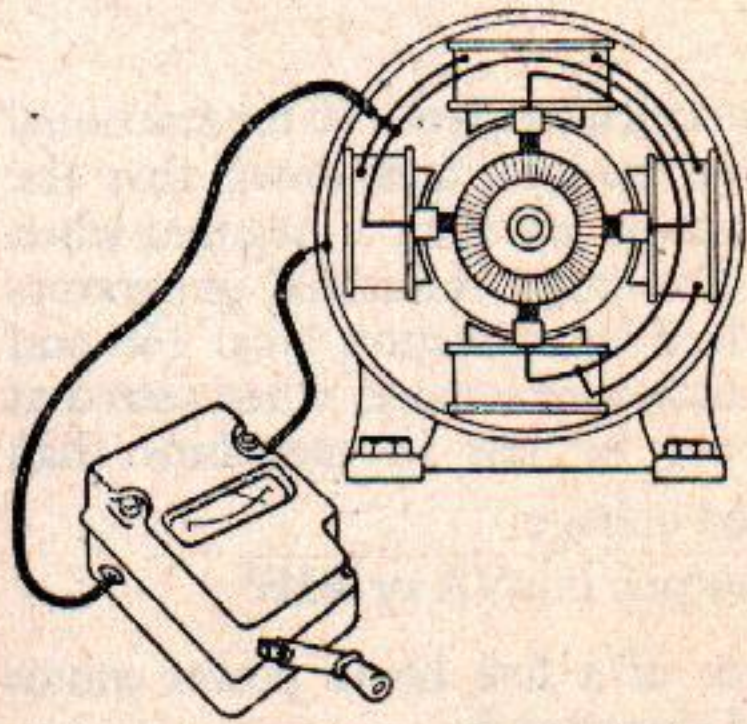

Figure 7
1. With the armature and field windings all connected together (Figure 7) ;